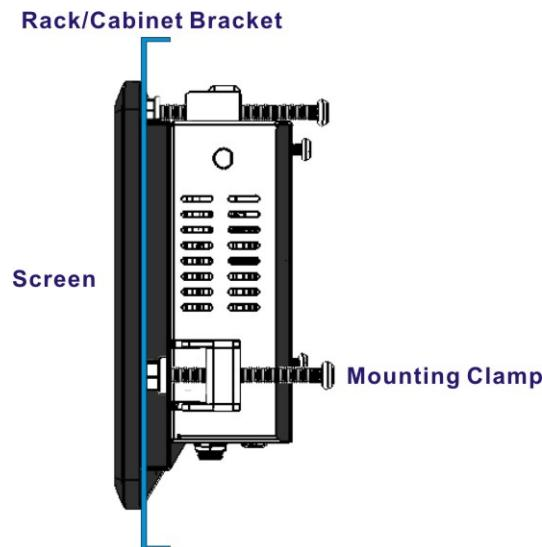

Figure 3-23: Secure the Rack/Cabinet Bracket
- Step 2:** Insert the mounting clamps into the mounting brackets and pre-formed holes along the edges of the PPC-F06B-BT, behind the aluminum frame (**Figure 3-23**). There are a total of four mounting clamps required.
- Step 3:** Tighten the screws that pass through the mounting clamps until the plastic caps at the front of all the screws are firmly secured to the bracket (**Figure 3-23**).